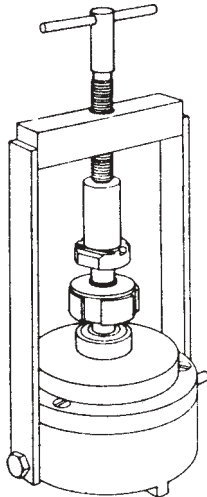

Figure 7.1
- D. Place the bearing assembly plug (T-101) onto the exposed end of the rotor shaft. (See Figure 7.1.)